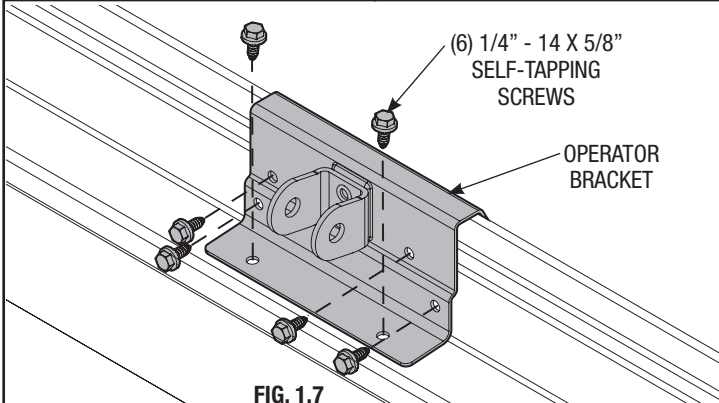

FIG. 1.7
**NOTE:** See FIG. 1.7 for installing operator bracket on top section without u-bars.